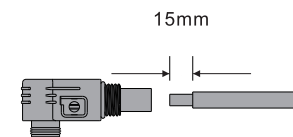

Figure 4.2-3 Pass the cable through the terminal
Step1: Pass the cable through the terminal, as shown in Figure 4.2-3.